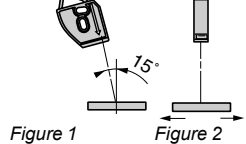

Figure 2
■ The direction of travel of the object must be as shown in figure 2. This provides detection that is less sensitive to variations in the angle of detection.